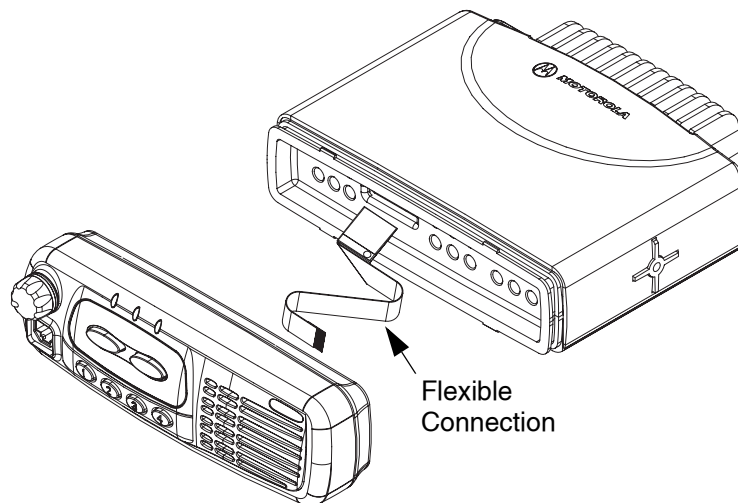

Figure 2-4: Flexible Connection Removal
3. Pull the control head away from the radio assembly as shown in Figure 2-4.